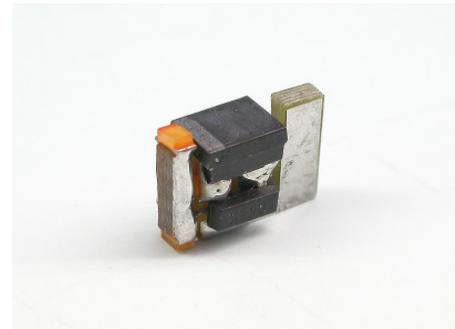

figure 1: The component railbus-motor coach lighting
2. The product version 7024 can be seen in figure 1. These instructions are part of the product. Please retain them well. Do not worry about the yellow component having a white, transparent LED, and the white component having an orange LED. Even if letting the white component shine, it appears a bit odd. Only inside the body and behind the light conductor, the white light appears as supposed with a cast of yellow.